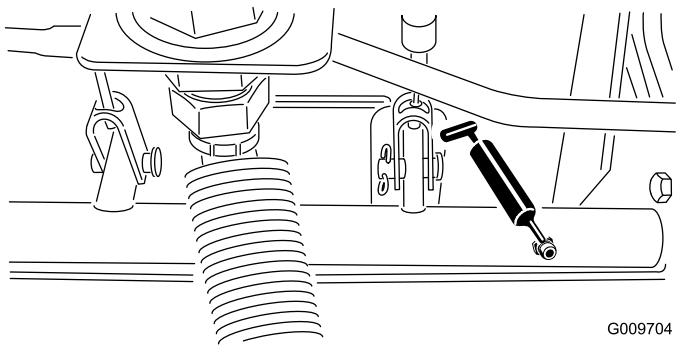

Figure 46
- Brake shaft pivot bearings (5) (Figure 46)